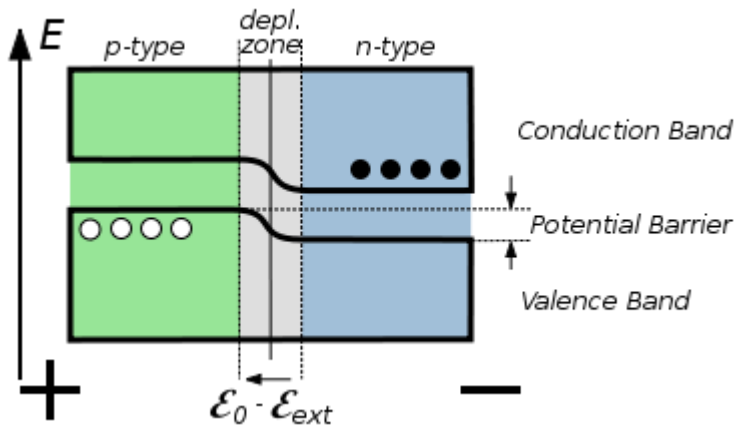

Figure 1
- The holes in the p-type are located in the valence band while the free electrons in the n-type are in the higher energy conduction band as shown in Figure 1.